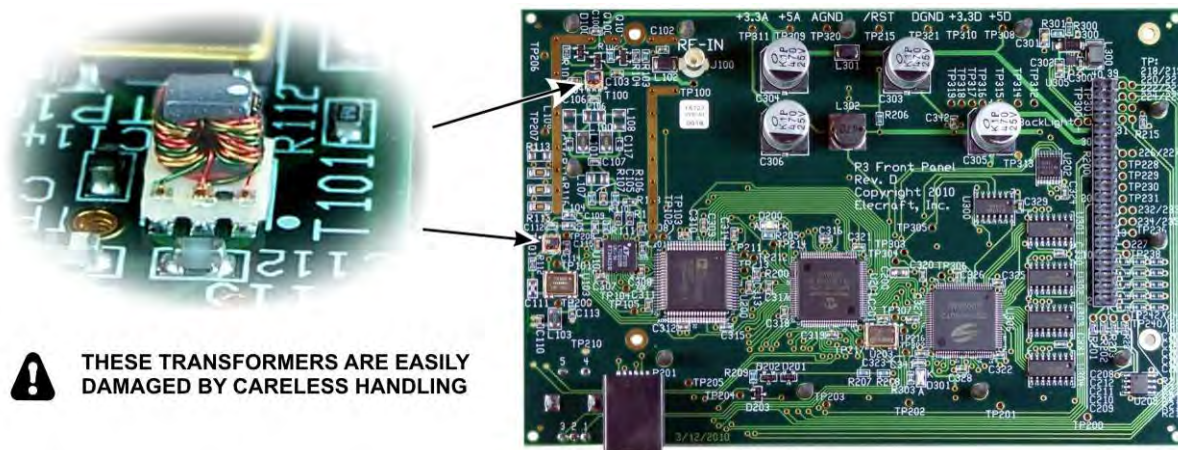
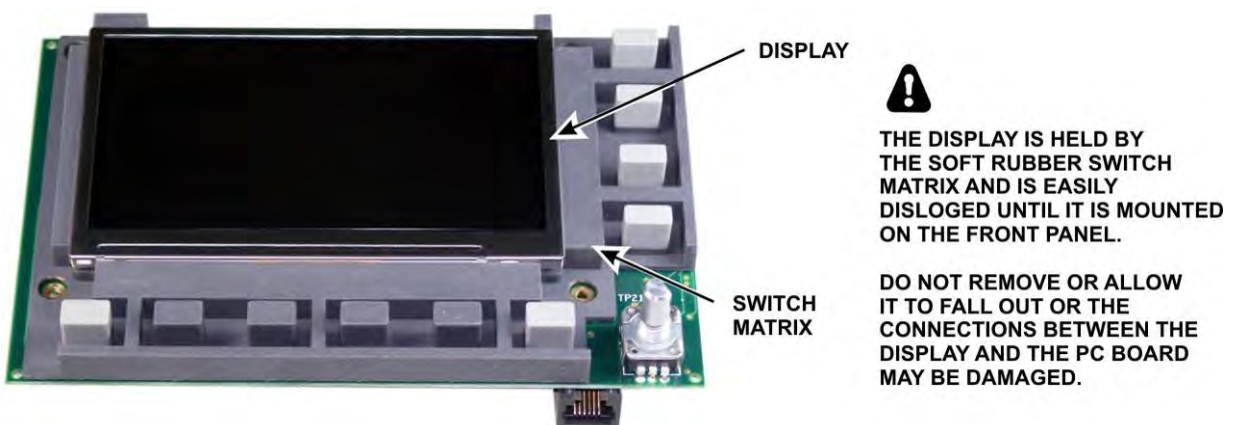

Figure 2. Front Panel Display Board Component Side.
Figure 3. Display Panel in Front Panel Board.
□ Carefully remove the front panel display board from its anti-static packaging, taking care not to damage the transformers or other components (Figure 2) or to allow the display panel to fall out of the soft rubber switch matrix (Figure 3). You may notice that one of the pins on 40-pin connector P200 has been cut off. That is intentional.